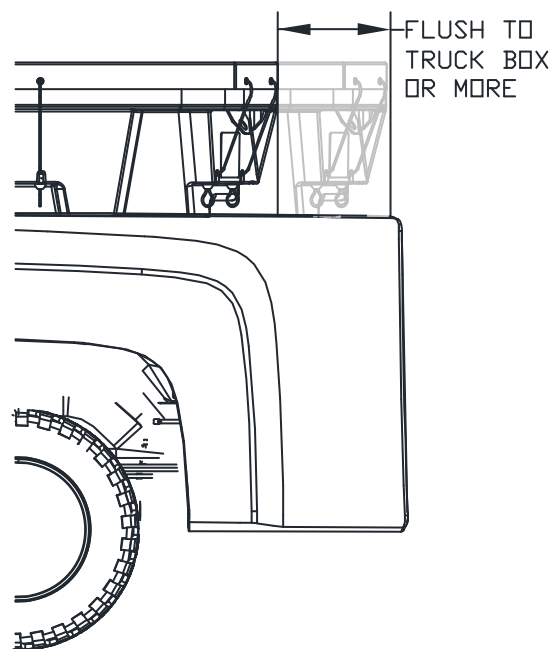

Figure 8. Spreader Orientation.....G10802
4. Rear of spreader must be no closer than flush with back of truck box (See Figure 8).